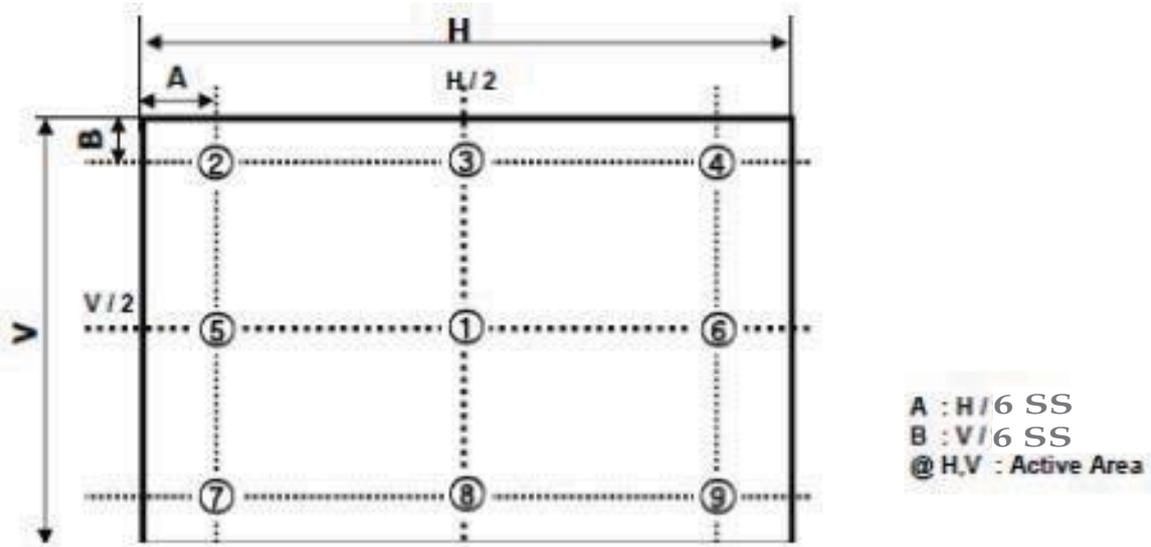

FIG. 2 9 Points for Luminance Measure
2. Surface luminance are determined after the unit has been 'ON' and 1 Hour after lighting the backlight in a dark environment at 25 - 27°C. Surface luminance is the luminance value at center 1-point across the LCD surface 50cm from the surface with all pixels displaying white. For more information see the FIG. 2.
For more information, see the FIG. 2.